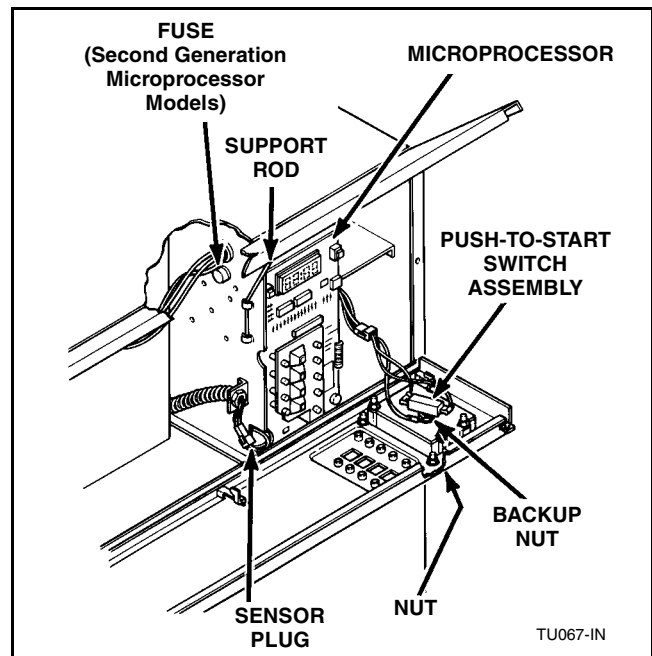
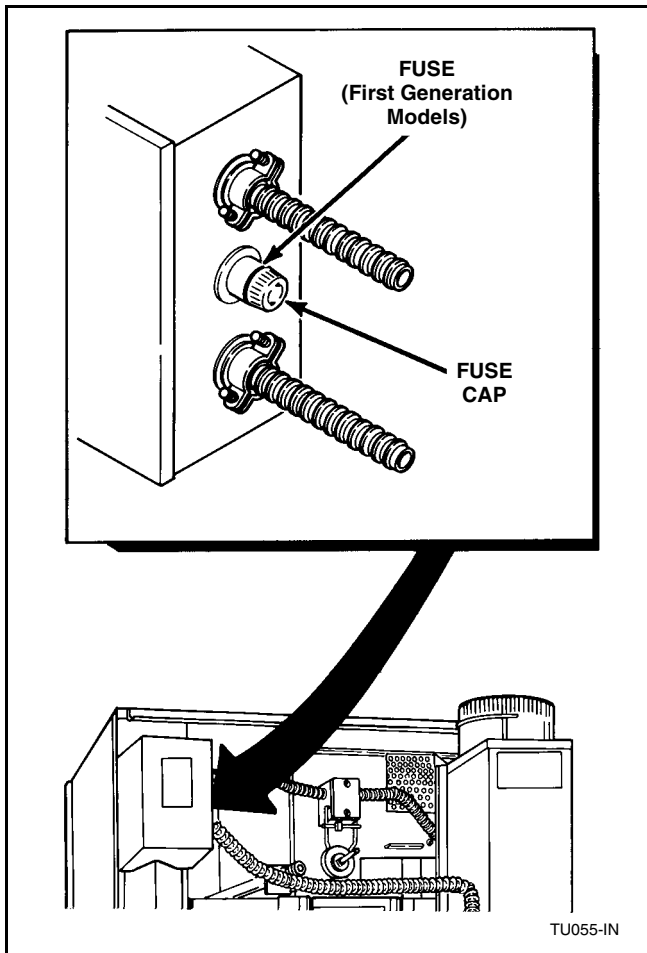

Figure 3
Figure 4
- d. Remove nut securing switch to plate and instruction plate. Refer to *Figure 3*. Refer to Parts Manual for assembly.
- e. Remove timer switch. Remove backup nut from push button shaft. Refer to *Figure 3*.
- Disconnect sensor plug from microprocessor. Refer to *Figure 3*.
- Pull microprocessor away from cabinet and disconnect Molex plug. Refer to *Figure 3*.
NOTE: Fuse location is different for first and second generation microprocessor models. For first generation models (through Serial No. XTEK069004TC) fuse assembly is located in bottom access hole of junction box on rear tumbler panel. Refer to *Figure 4*. For second generation models, fuse is located behind access panel on left side of control box. Refer to *Figure 3*.